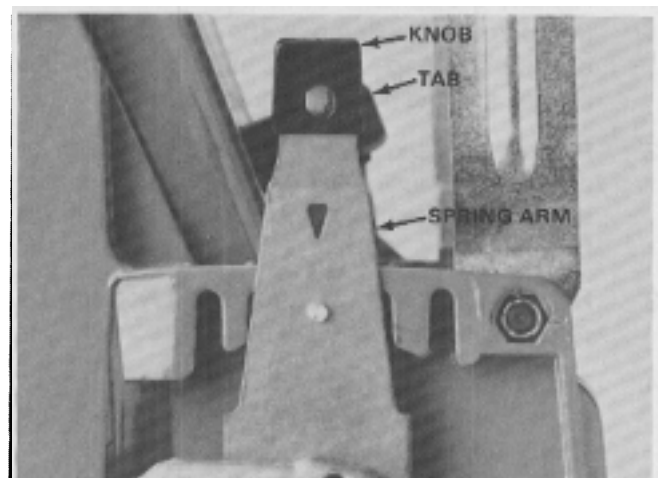

Figure 23
1. If necessary, reassemble the spring arms by installing a knob on top of the spring arm. Make sure that the tab on the top of the spring arm rises at least 1.5 mm (.060") above the spring arm. Install the knob so that the concave part of the knob and the concave part of the rivet are on opposite sides. See Figure 23.